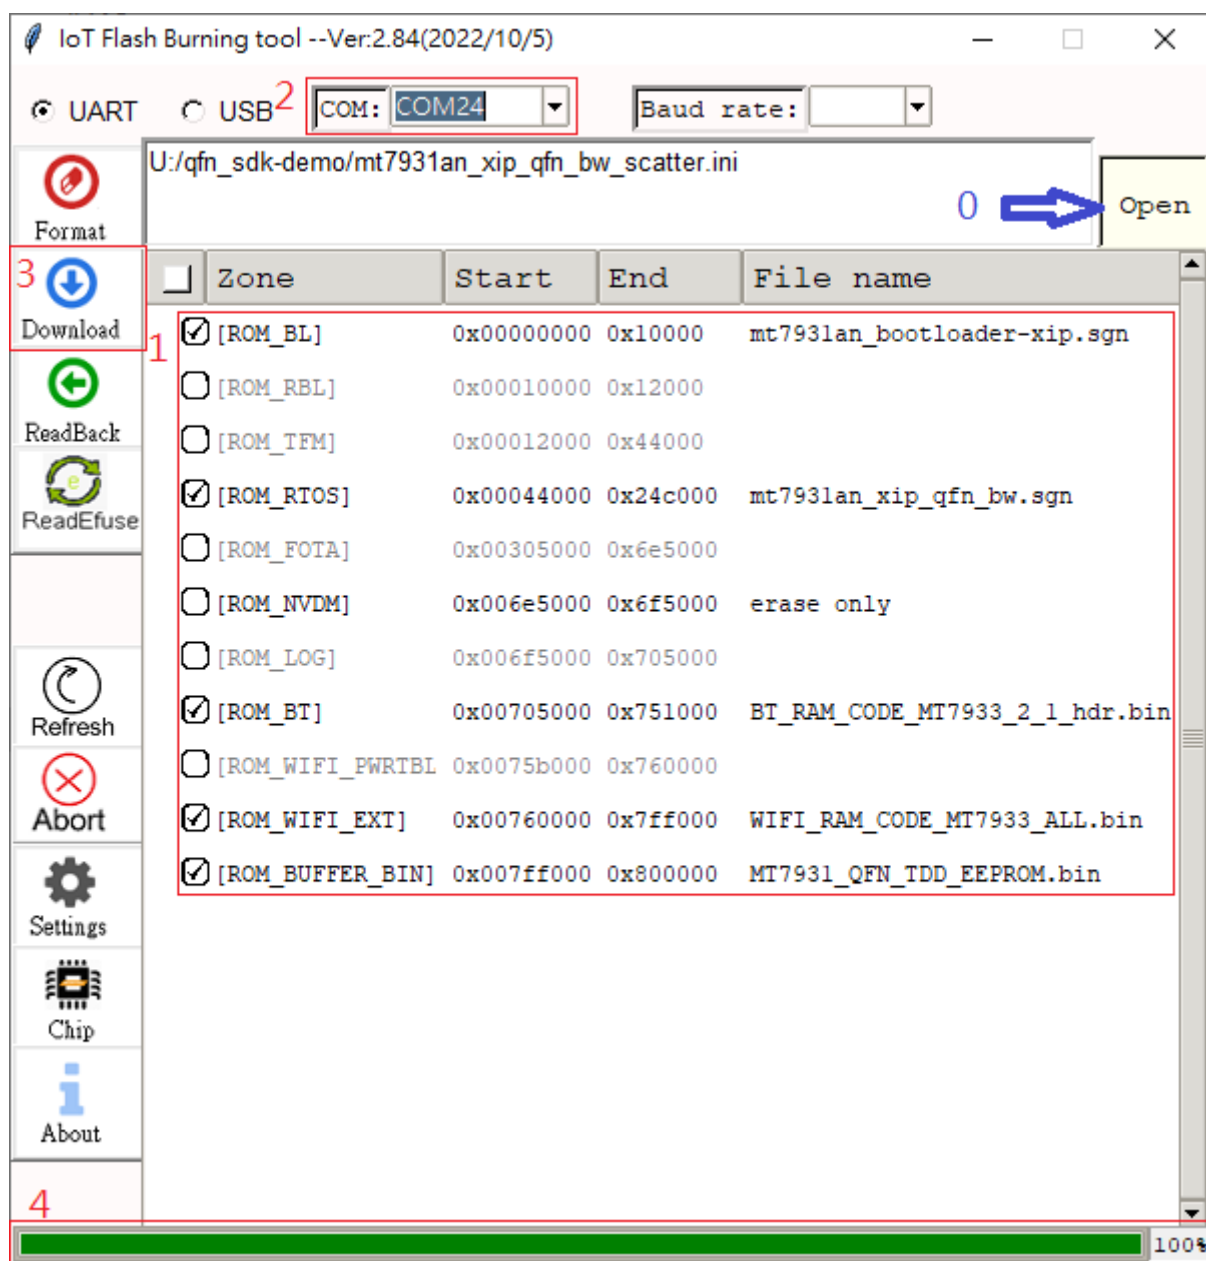

Figure 5. FlashBurningTool_ User intrrface
6. Refer to Figure 5. Click “Open” button to navigate the folder of your scatter file (See the blue arrow in Figure 4). And press “Refresh” button.
7. Refer to Figure 5. Go to red box 1 and choose the file you want to burn into flash.
8. Refer to Figure 5. Go to red box 2 and choose the “COM33 UART” port of your PC (Please refer to Step 7 in Section 2.2 to check which USB serial port is CM33 UART port at your PC).
9. **Slide the rightmost side switch of “SW6” (pin6→7) and keep “SW1” pressed.** Refer to Figure 5. Click “Download” button (as red box 3 in Figure 5) and wait for FlashBurningTool feedback.
11. You can check FlashBurningTool to see the progress bar of burning image.(See red box 4 in Figure 5 and wait to 100%)